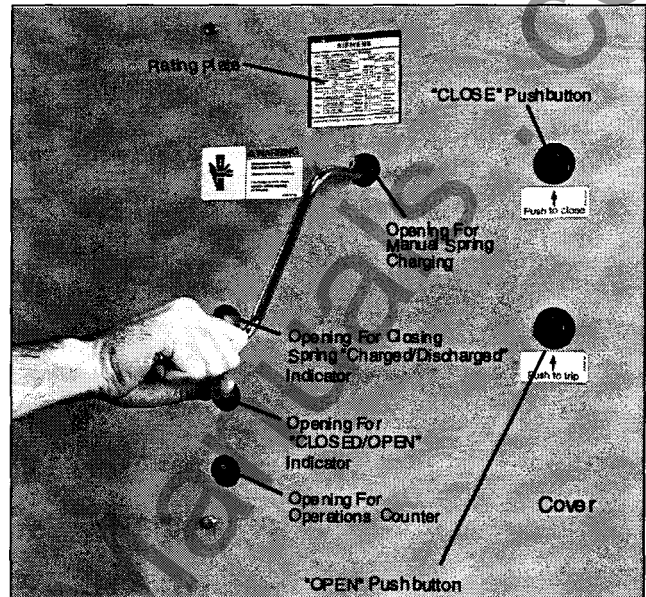

Figure 1. Front Panel Controls of Circuit Breaker and Manual Charging of Closing Spring
Spring Discharge Check (Figure 1)
1. Insert the manual spring charging crank into the manual charge handle socket as shown in Figure 1. Turn the crank clockwise until the spring condition indicator shows the closing spring is Charged.
3. Use the Close and Open controls (**Figure 1**) to first Close and then Open the circuit breaker contacts. Verify contact positions visually by observing the Open/Closed indicator on the circuit breaker.
Construction (Figures 1, 2, 5, 6a and 6b)